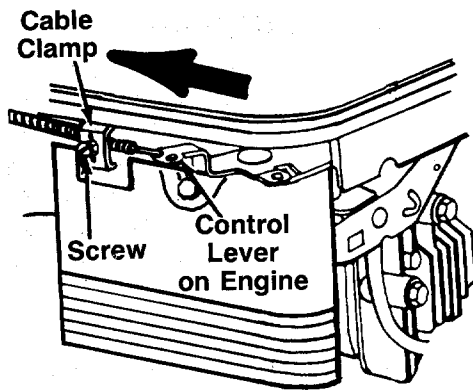

FIGURE 20A.—Models 444R, 446R, 454R and 456R
1. Remove the screw shown in figure 20A. Remove the cable clamp from the cable.